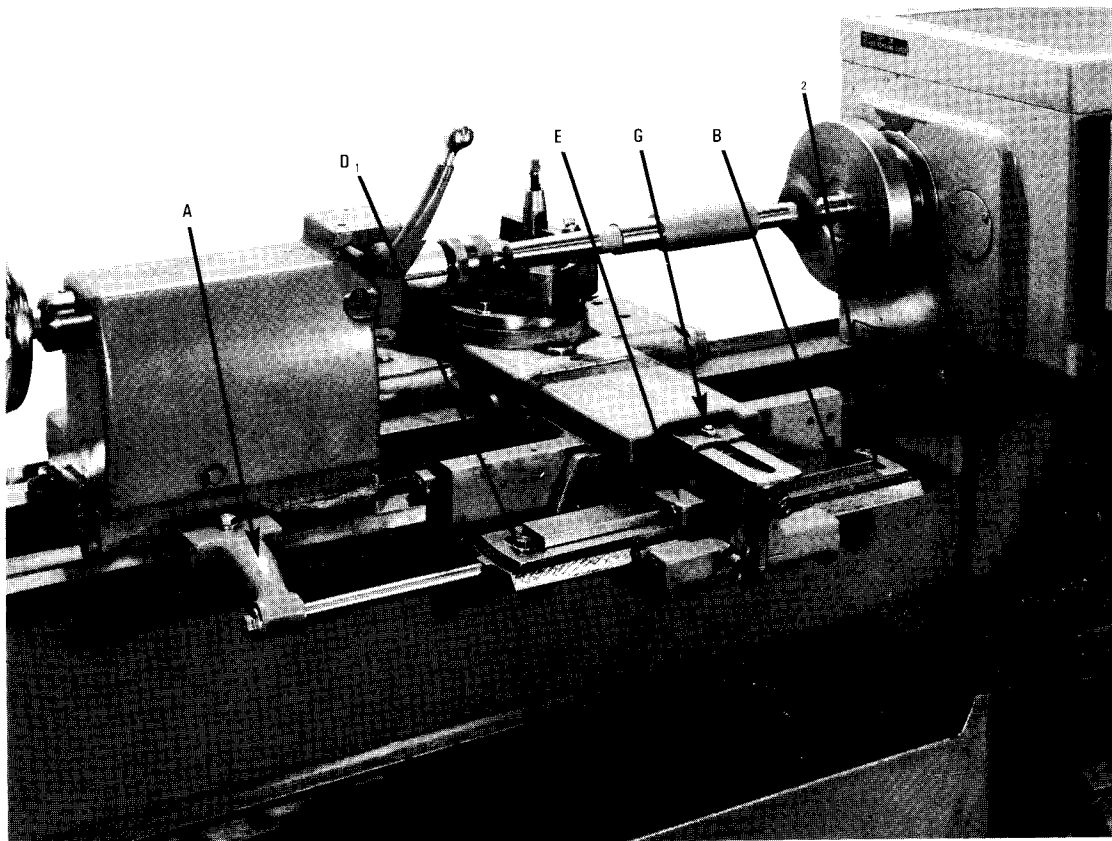

Figure 54-13 The telescopic taper attachment.
2. The telescopic taper attachment (Fig. 54-13)
1. Clean and oil the guide bar B (Fig. 54-13).